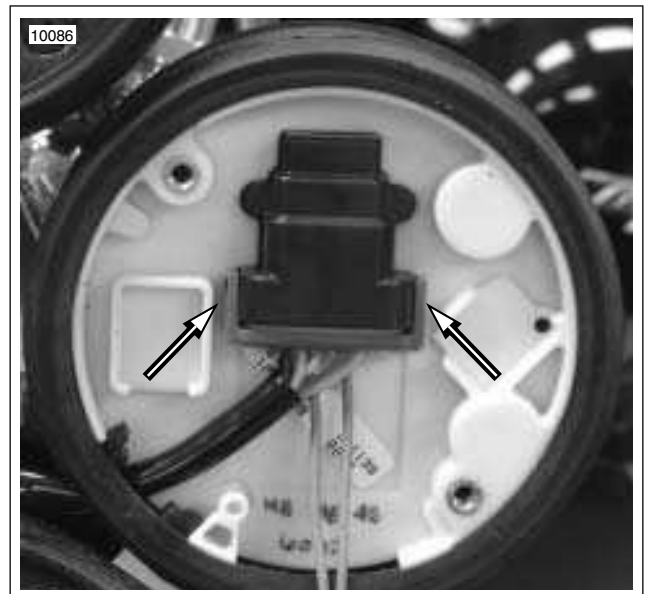

Figure 2-16. Speedometer Connector [39]
1. See Figure 2-16. Bend back the external latches slightly and remove connector [39B].